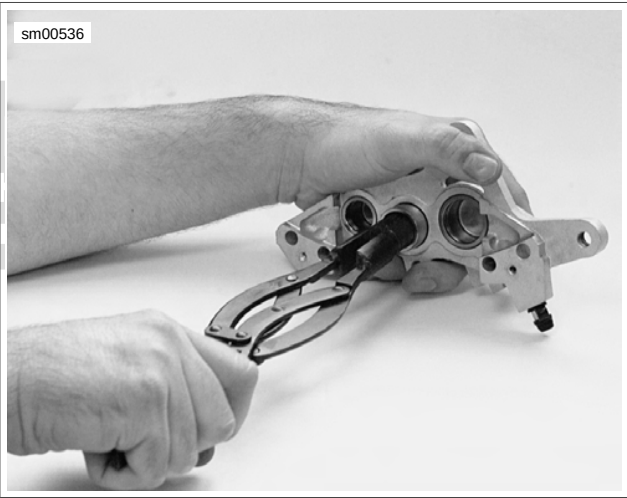

Figure 2-43. Removing Pistons (B-42887)
- 4. See Figure 2-43. Remove pistons using a BRAKE CALIPER PISTON REMOVER (Part No. B-42887).